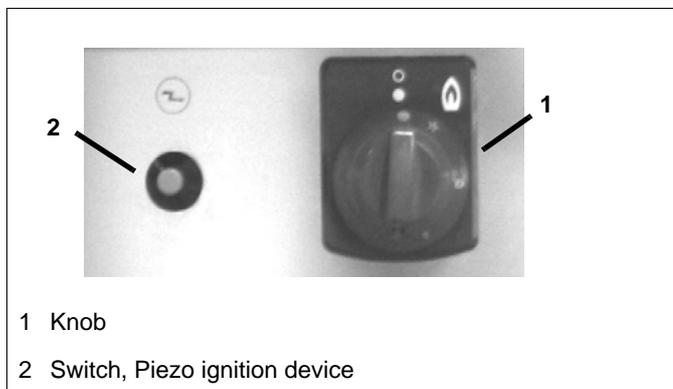

Fig.9 Control panel
- ⇒ Turn on main gas tap (1/Fig.9).
- ⇒ Turn on the water supply tap (4/Fig.9) until the trough is full.
The knob (2/ Fig.9) has four main settings:
- ⇒ Push the knob (2/Fig.9) fully in.
- ⇒ Hold the knob (2/Fig.9) fully pressed in.
- ⇒ At the same time, ignite the gas escaping at the pilot burner with the piezo ignition device. The burner is ignited by turning the knob (3) clockwise or anti-clockwise.
- ⇒ Press the knob (2/Fig.9) in lightly and turn it from the pilot burner ignition position (★) anti-clockwise to the high (🔥) position.
- ⇒ Push the knob (2/Fig.9) fully in and turn it anti-clockwise from the high setting (🔥) towards the lowest (🔥) setting. The flame becomes smaller and smaller. In the lowest setting (🔥) the main burner has the lowest output.
- ⇒ To return from the lowest setting (🔥) towards the highest setting (🔥), push the knob (2 / Fig.9) fully in and turn it clockwise.
- ⇒ Turn the switch (2/Fig.9) to the highest setting (Ⓐ).
- ⇒ Set the appropriate cooking temperature with the switch (2/Fig.9), according to the quantity and quality of the food to be cooked.
- ⇒ Turn the knob (2/Fig.9) back clockwise from the highest setting (Ⓐ) to pilot burner ignition (★).
- ⇒ Press the knob (2/Fig.9) lightly and turn it clockwise from pilot burner ignition to Off.